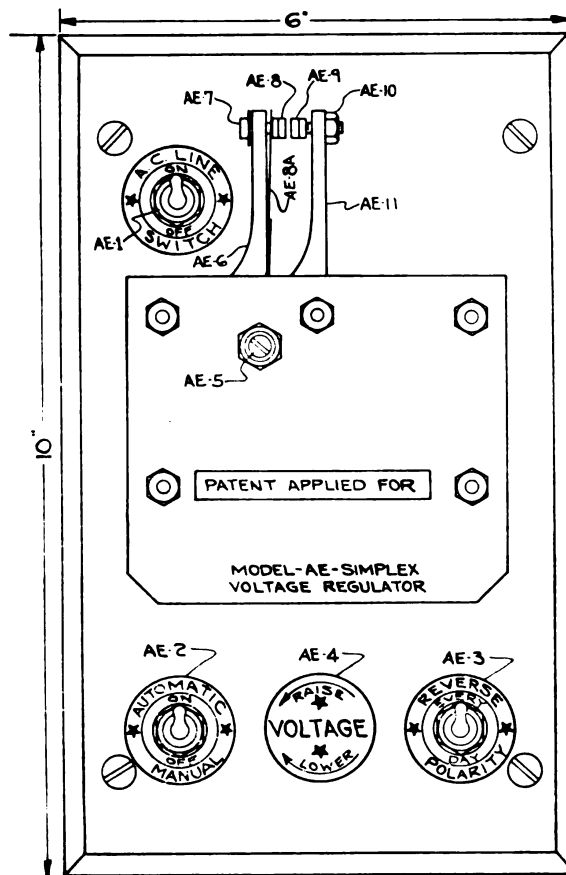

FIG. 26 VOLTAGE REGULATOR, FRONT VIEW WITH COVER REMOVED
b. (See Fig. 26) The contacts AE-8 and AE-9 of voltage regulator 202 may have to be replaced occasionally as wear indicates. These contacts may be replaced as follows: